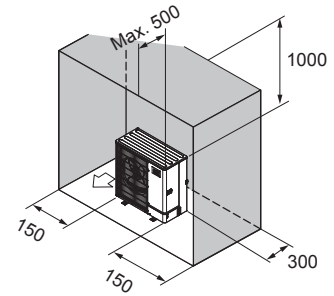

Fig. 1-27
- ⑥ Obstacles at rear, sides, and above only (Fig. 1-27)